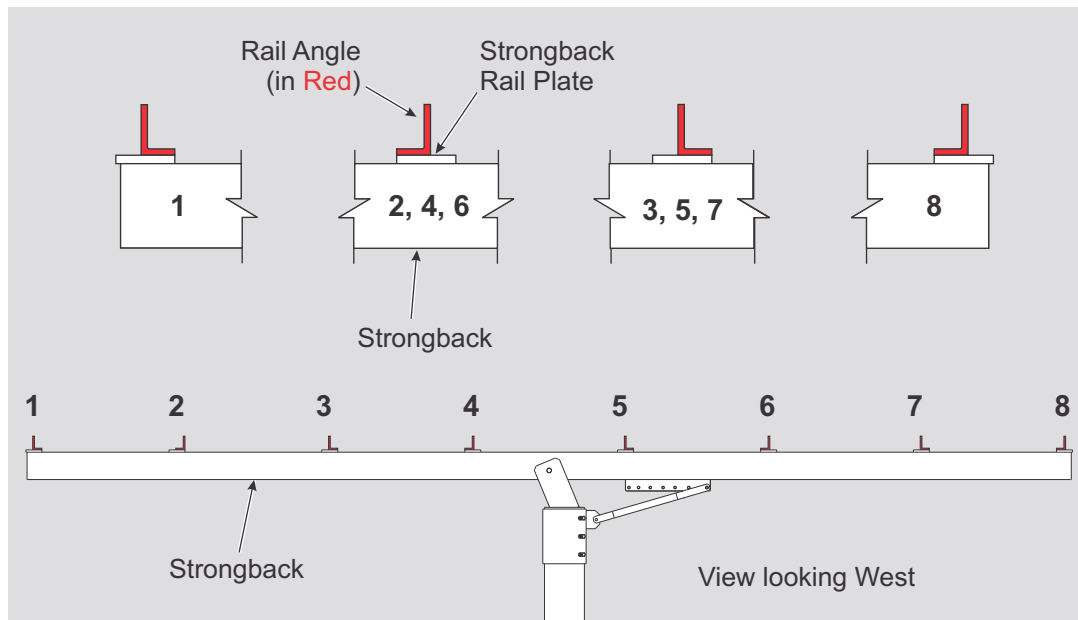
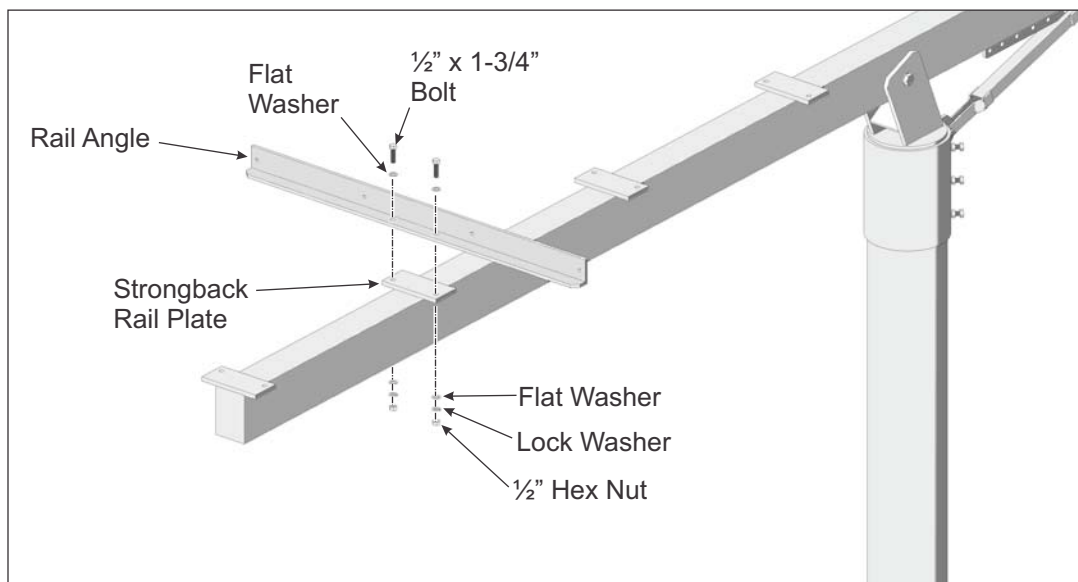

Figure 3-1: Orientation of Rail Angles to Strongback
Figure 3-2: Installing Rail Angles to Strongback
Rail Angles run in an E-W direction and are secured to the rail plates (welded to the Strongback) using the 1/2" x 1-3/4" bolts and hardware. Proper orientation of the Rail Angles to the Strongback is very important. Follow these instructions carefully (See Figures 3-1 & 3-2). There are eight Rail Angles to install.
- A. Referring to Figure 3-1 for orientation of the Rail Angles position the Rail Angle on the Rail Plate of the Strongback and secure with 1/2" x 1-3/4" bolts and hardware. Finger tighten for now. (See also Figure 3-2)